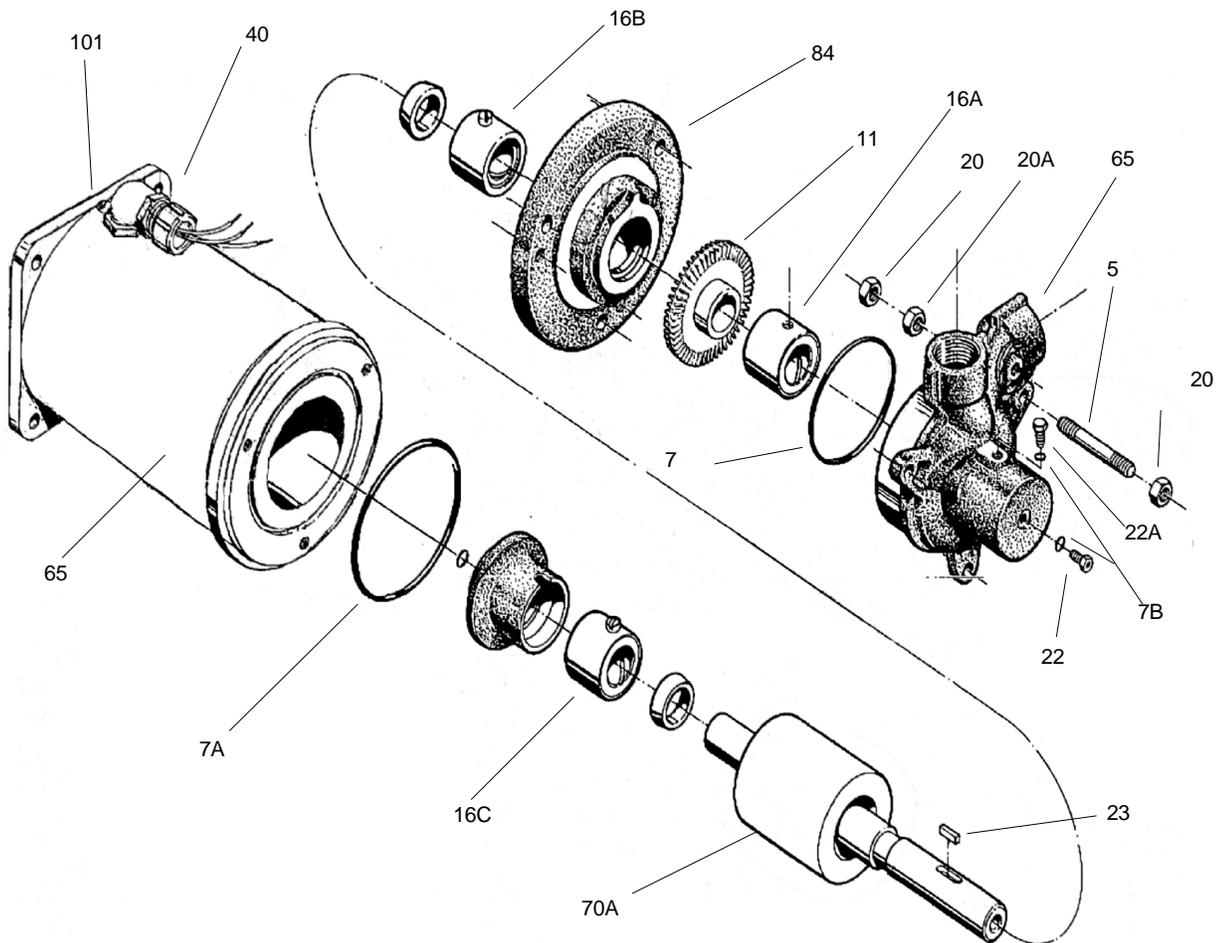

Figure 4-9
An exploded view of the unit, figure 4-9 is provided for referencing the numbers in the following procedures, i.e. (#84), motor bracket.
Refer to figure 4-9 for reference to the numbered parts in the procedures below.
8. Remove the three jam nuts (#20A) and the other three nuts (#20) using a 9/16" wrench and slide off the motor bracket (#84). DO NOT loosen, tighten, or turn the three 3/8-24 setscrews (#15) in the motor bracket, refer to figure 4-9. These are used to set the motor bracket true with the shaft. If these are disturbed, it will be necessary to follow the "Motor Bracket Setup Procedure" when reassembling the pump, as outlined in section 4E Reassembly.
6. Install the motor bracket (#84) over the three studs (#5) so that the water stop is oriented on the same side as the motor conduit connection, refer to figure 4-9. Be certain to orient the cartridge bearing (#16B) on the shaft so that the screw head slides into its groove in
8. Install the O-ring (#7) over the motor bracket. Refer to figure 4-9.
14. Place the pump body over the three studs, aligning the water stop on the motor bracket with the water stop on the body. The pump inlet should be in line with the conduit connection on the motor, refer to figure 4-9. Some pressure may be required to push the pump body over the O-ring on the motor bracket. Be careful not to pinch and damage the O-ring.